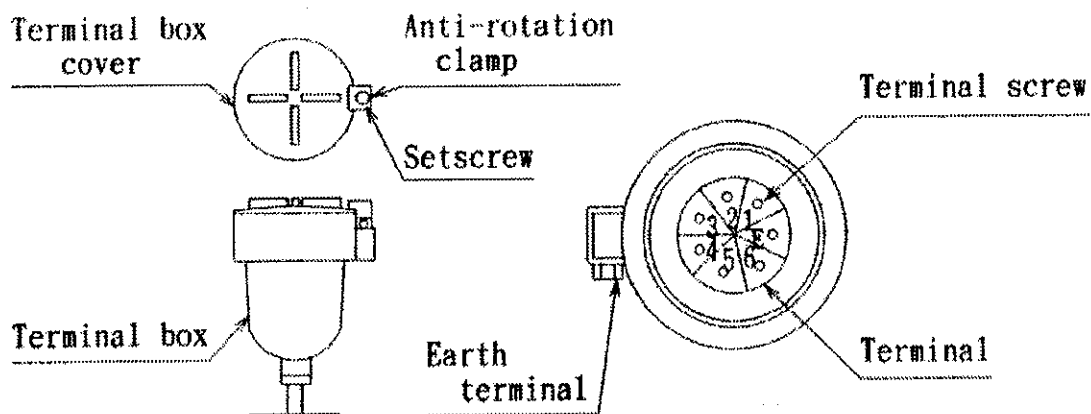

Fig. 11
- (1) Loosen setscrew with a allen wrench for M4, and remove Anti-rotation clamp.
- (2) Remove the terminal box cover.
- (3) Bring the cable into the terminal box.
- (4) Connect the cables to the terminals as shown Fig. 11.
- (5) Make sure that there is no miswiring.
- (6) Reinstall the terminal box cover in accordance with protection category IP65.
- (7) Tighten the setscrew securely.